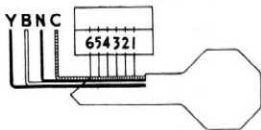

Fig. 66—Tumbler Requirement Diagram
In cases where a code book is not available, the diagram as shown in figure 66 may be used to determine the tumblers required to assemble an uncoded lock cylinder.
1. Lay the key on the diagram (fig. 66) with the bottom of the key flush with the edge of the drawing, head and point carefully lined up.